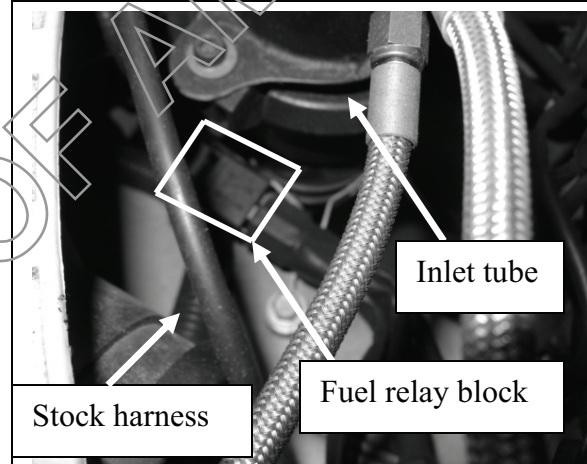

FIGURE 46
74. Zip tie the fuel relay block (00-1703-C08261* - the black plastic junction of multiple main harness wires) to the factory wiring harness on the fender-well, next to the bottom of the intake tube **(FIGURE 46).**